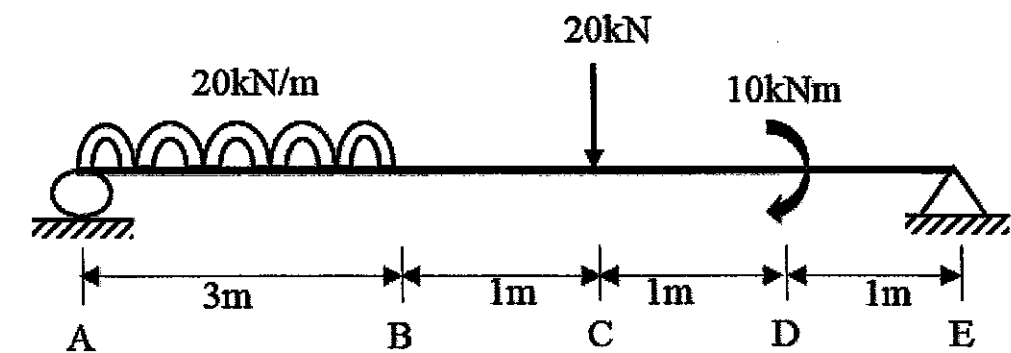

Figure A2(c) / Rajah A2(c)
- CLO2 C3 (c) A simply supported beam is loaded as shown in Figure A2(c). Sketch the shear force and bending moment diagrams of the beam [15 marks]